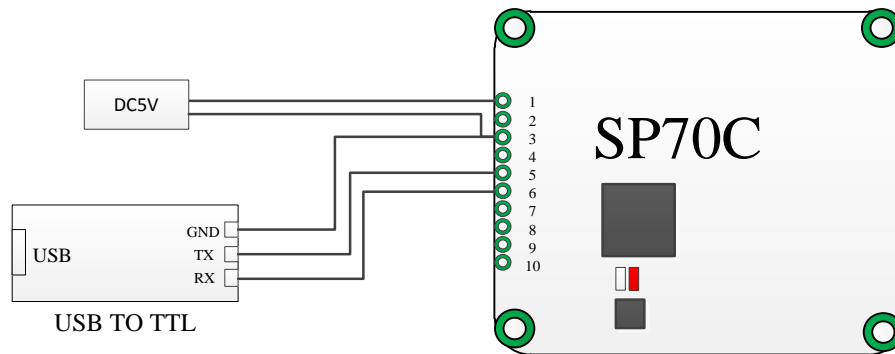

Figure 6 Diagram for serial port connection
(2) With a USB connection to TTL serial port adaptor, to connect PC and SP70C, as shown in figure 6